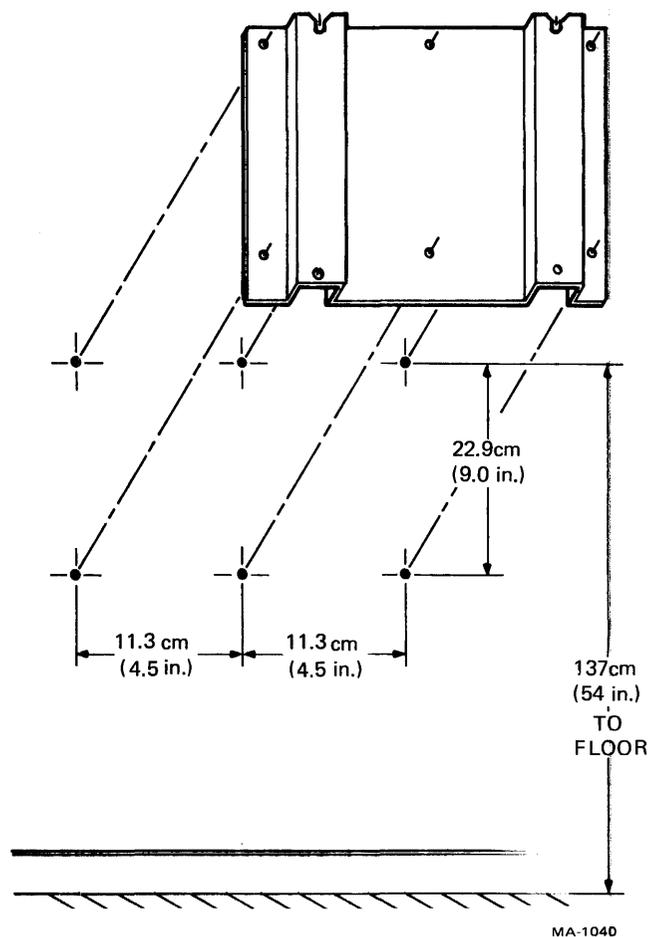

Figure 2-2 Wall-Mount Hole Location Data
5. Locate wall mounting plate mounting holes on wall per Figure 2-2.